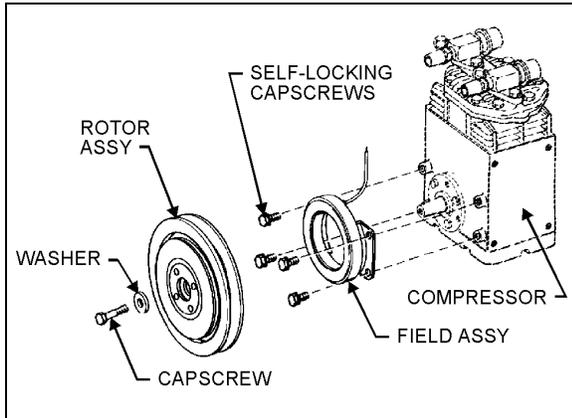

FIGURE 25: PULLEY INSTALLATION 22073
1. Position the field assembly against the compressor bosses, aligning the field mounting holes with the bolt holes in the bosses (Fig. 25). Insert four (4) self-locking cap screws, supplied with the clutch, into the bolt holes of the compressor. Tighten the cap screws to a wrench torque of 7/10 lbf•ft (9,5/13,5 N•m). Take care not to strip the threads in the compressor body.